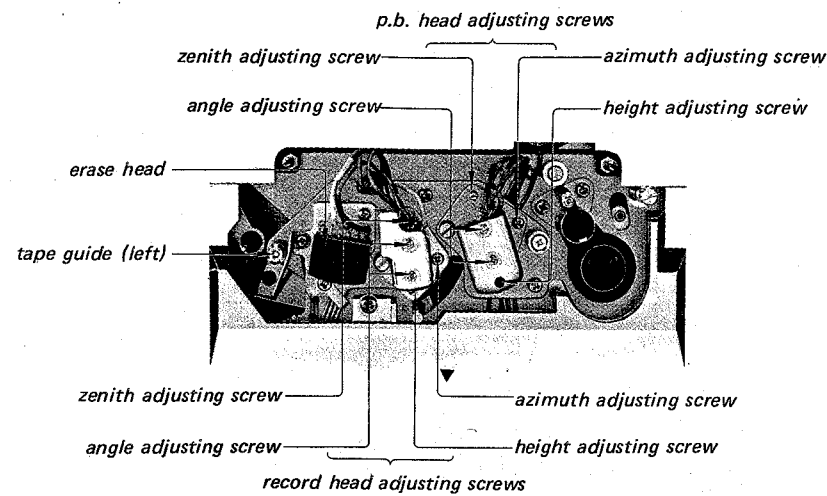
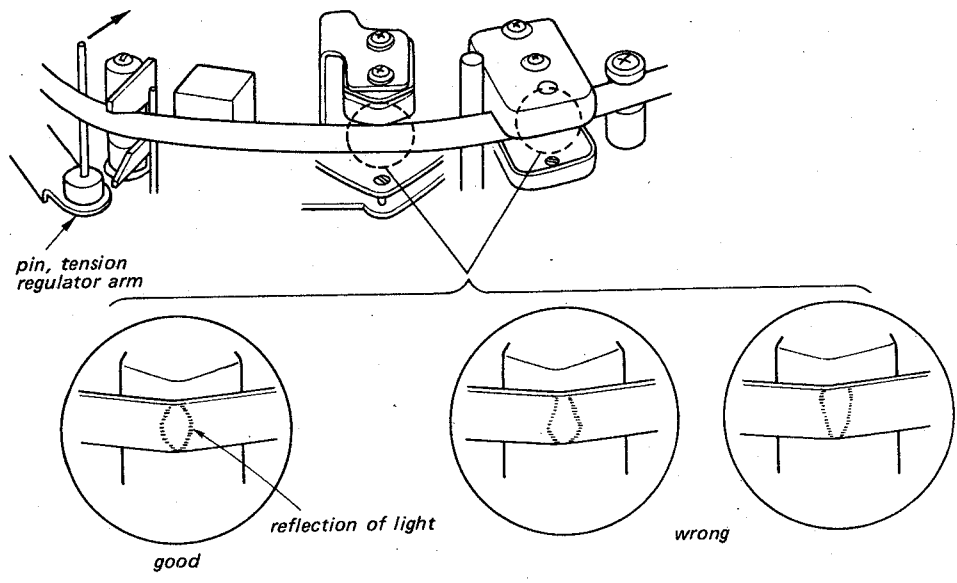

Fig. 9-1 Adjusting parts location (1)
Fig. 9-5 Tentative record and p.b. heads adjustment
tape guide (left)..... See Fig. 9-1.
**(B) Tentative Record and P.B. Heads Adjustments**
*Adjusting Parts:* (See Fig. 9-1)
- ① azimuth adjusting screw
- ② height adjusting screw
- ③ zenith adjusting screw
- (1) Thread a blank tape.
- (2) Set the machine in FWD mode at the 19 cm/s (7½ ips) tape speed.
- (3) Make the tape loose a little by pushing the tension regulator arm pin in the direction shown with the arrow in Fig. 9-5 and then adjust the p.b. head zenith and azimuth adjusting screws and the record head zenith and azimuth adjusting screws to obtain the reflection of light as shown in Fig. 9-5.
- (4) Set the machine in STOP mode.
- (5) Turn the p.b. head azimuth adjusting screw so that the upper edge of the p.b. head core is parallel with that of the tape.
- (6) Turn the p.b. head height adjusting screw to align the upper edge of the p.b. head core and that of the tape and memorize the number of turns of the screw.
- (7) Turn the p.b. head zenith adjusting screw by the same number of turns in the same direction of the p.b. head height adjusting screw.
- (8) Repeat the above procedures (6) and (7) to align the upper edge of the p.b. head core and that of the tape.
- (9) Turn the p.b. head zenith and height adjusting screws counterclockwise by approximately 20° from the position obtained in the preceding procedure (8) so that the upper edge of the p.b. head core is 0.025mm lower than that of the tape.
- (10) Turn the record head azimuth adjusting screw so that the upper edge of the record head core is parallel with that of the tape.
- (11) Turn the record head height adjusting screw to align the upper edge of the record head core and that of the tape and memorize the number of turns of the screw.
- (12) Turn the record head zenith adjusting screw by the same number of turns in the same direction of the record head height adjusting screw.
- (13) Repeat the above procedures (11) and (12) to align the upper edge of the record head core and that of the tape.
- (14) Turn the record head zenith and height adjusting screws counterclockwise by approximately 20° from the position obtained in the preceding procedure (13) so that the upper edge of the record head core is 0.025 mm lower than that of the tape.
- (15) Set the machine in FWD mode at the 19 cm/s (7½ ips) tape speed.
- (16) Be sure to obtain the reflection of light as shown in Fig. 9-5 on the tape at the p.b. and record heads by pushing the tension regulator arm pin in the direction shown by the arrow in Fig. 9-5. If not, repeat the above procedures (3)~(14).